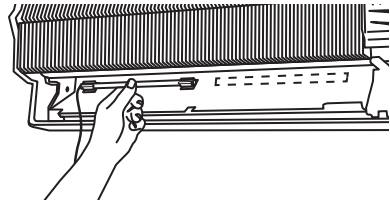

Figure 3. Peel adhesive backing and attach lamp in position.
- Peel off paper from the adhesive backing on the mounting brackets. Press the lamp with the lamp brackets firmly in place about 2" from blower wheel. (Figure 3.)